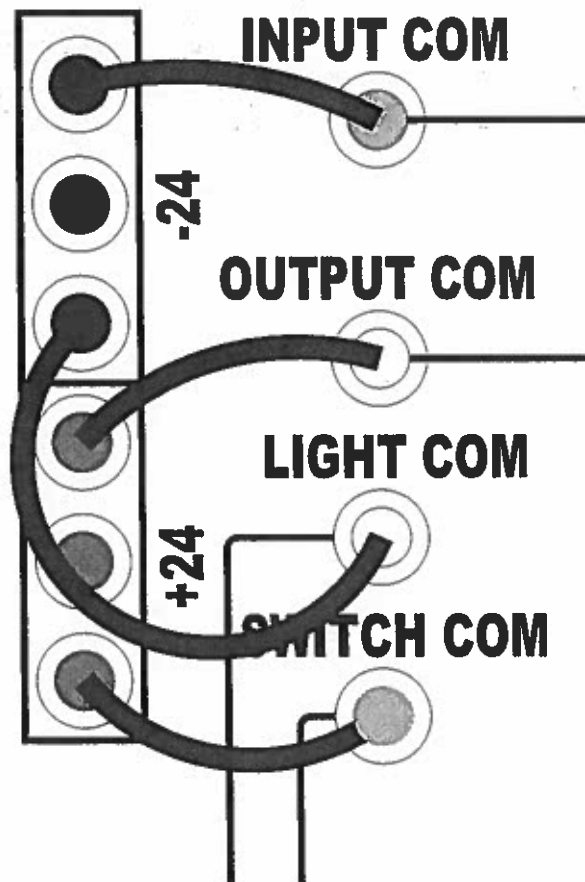

Figure 9-4
2. Take four jumper wires and connect them as shown in Figure 9-4.
3. Do not forget to make the common connections! (Refer to Figure 9-4.)